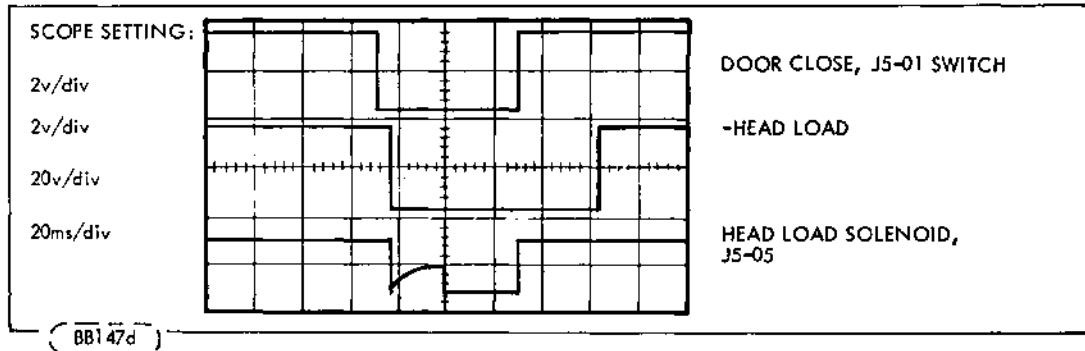

Figure 6-1. -Head-Load and Door-Close Switch
- c. Signals should conform to Figure 5-1 and Figure 6-1 through 6-4.